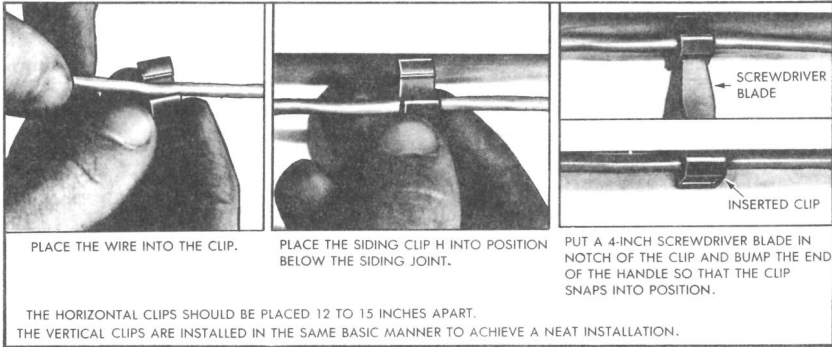

FIGURE 5. Installing Horizontal Clip
(4) Remove any slack from the wire, dress the wire against the siding, and proceed with the next clip. Place the clips 12 to 15 inches apart. See Figure 5.
- 2.02 Correct Figure 5 as follows: